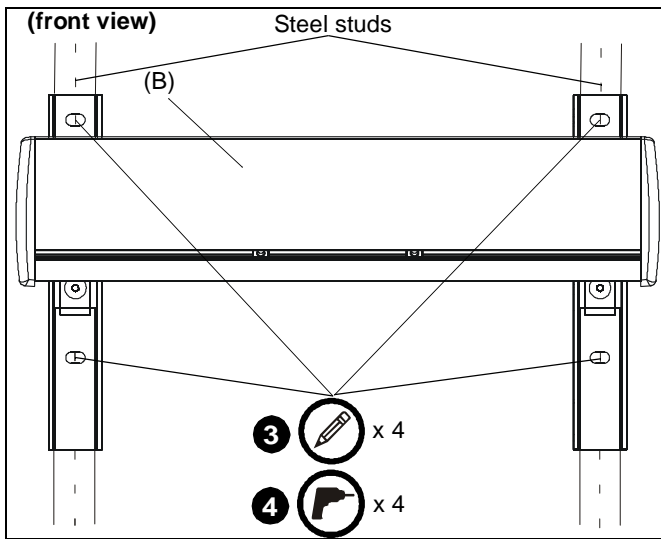

Figure 8
- Line up four holes on wall bracket with center of studs at desired mounting location. (See Figure 8)
- Using wall bracket as a template, mark four holes at the inner four holes in bracket. (See Figure 8)
- Drill four 1/2" holes at marked locations in wall. (See Figure 8)